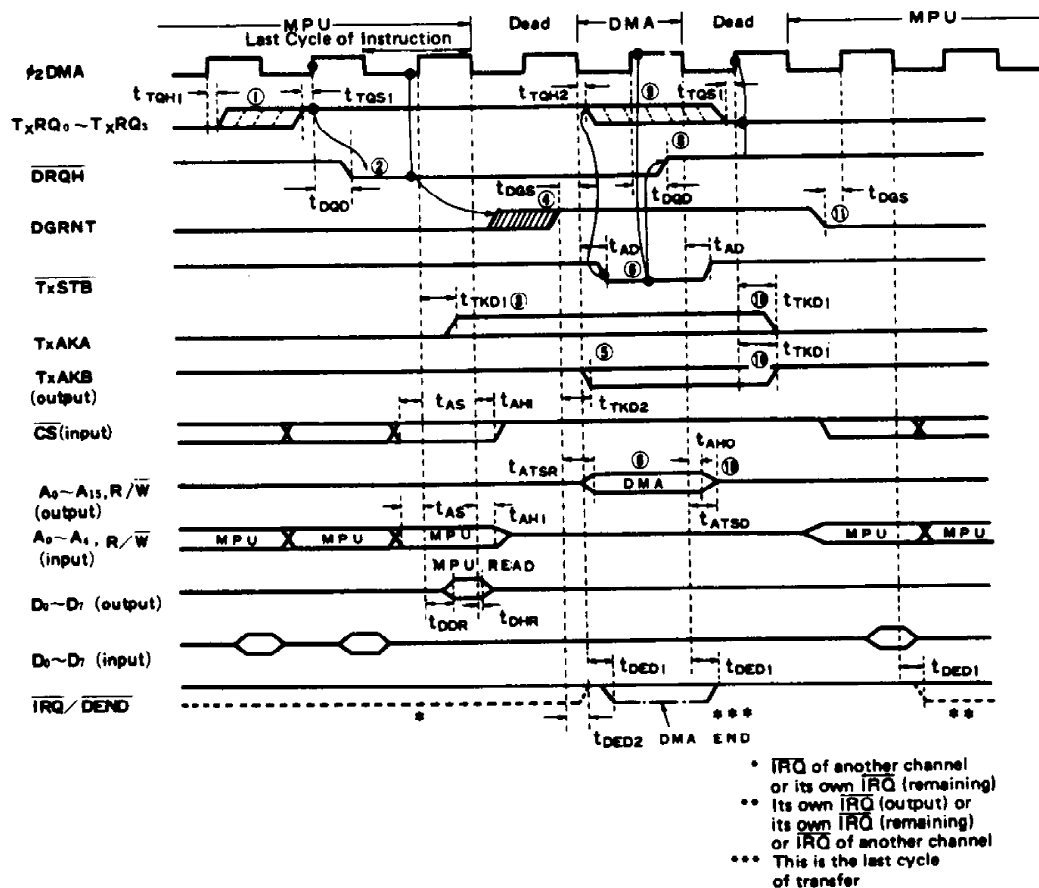
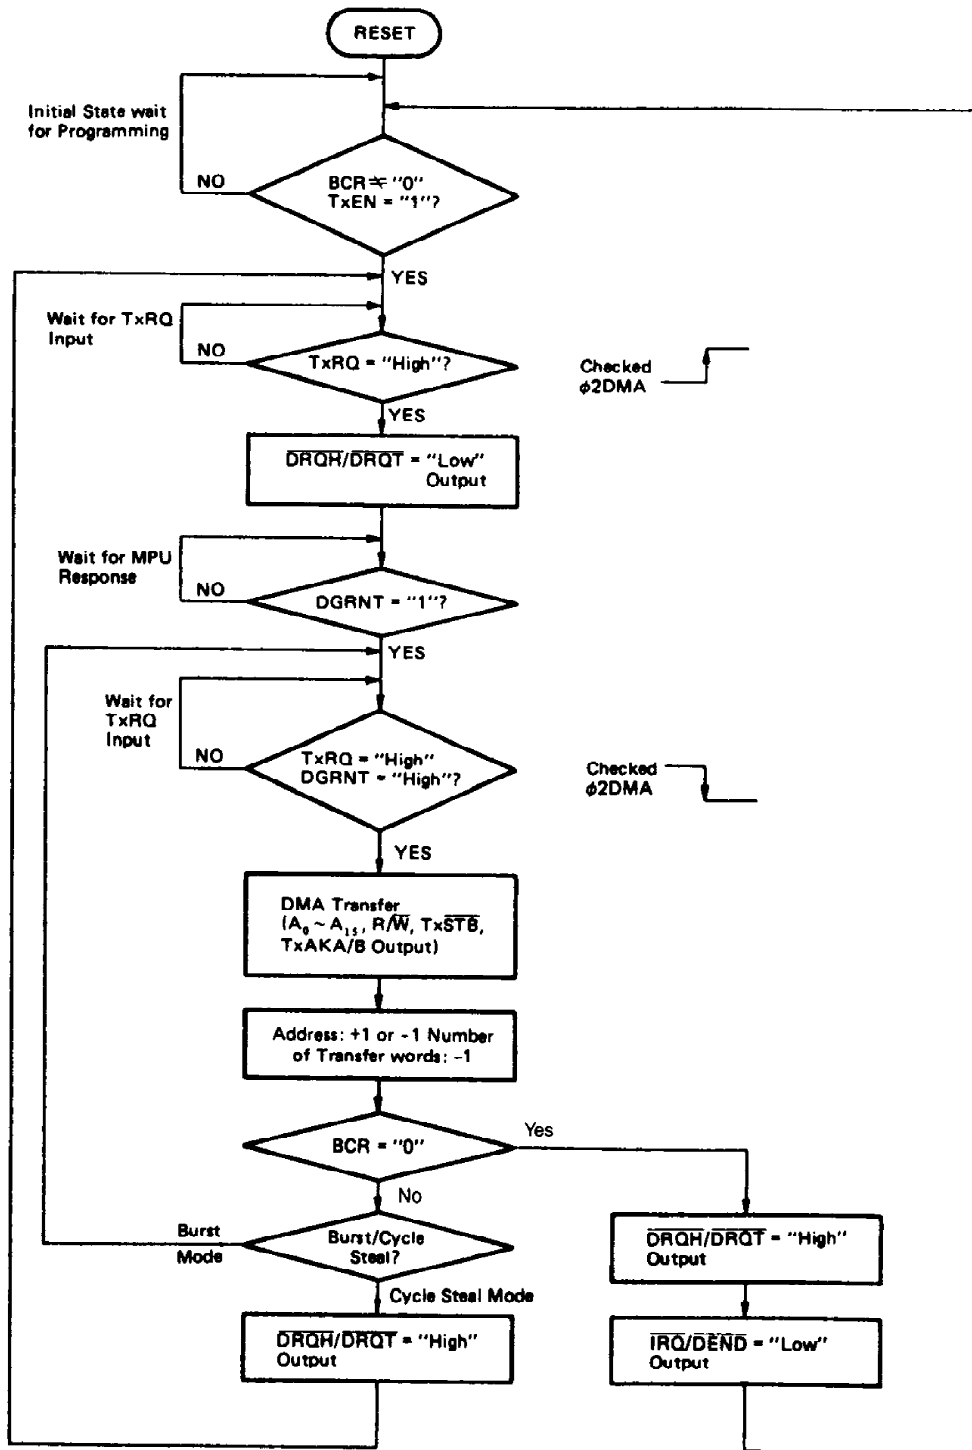
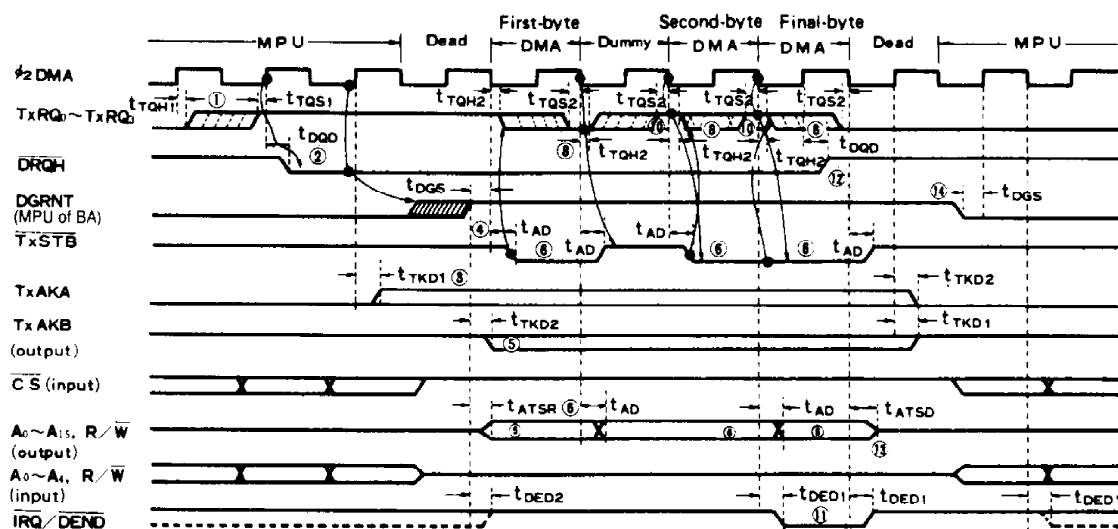
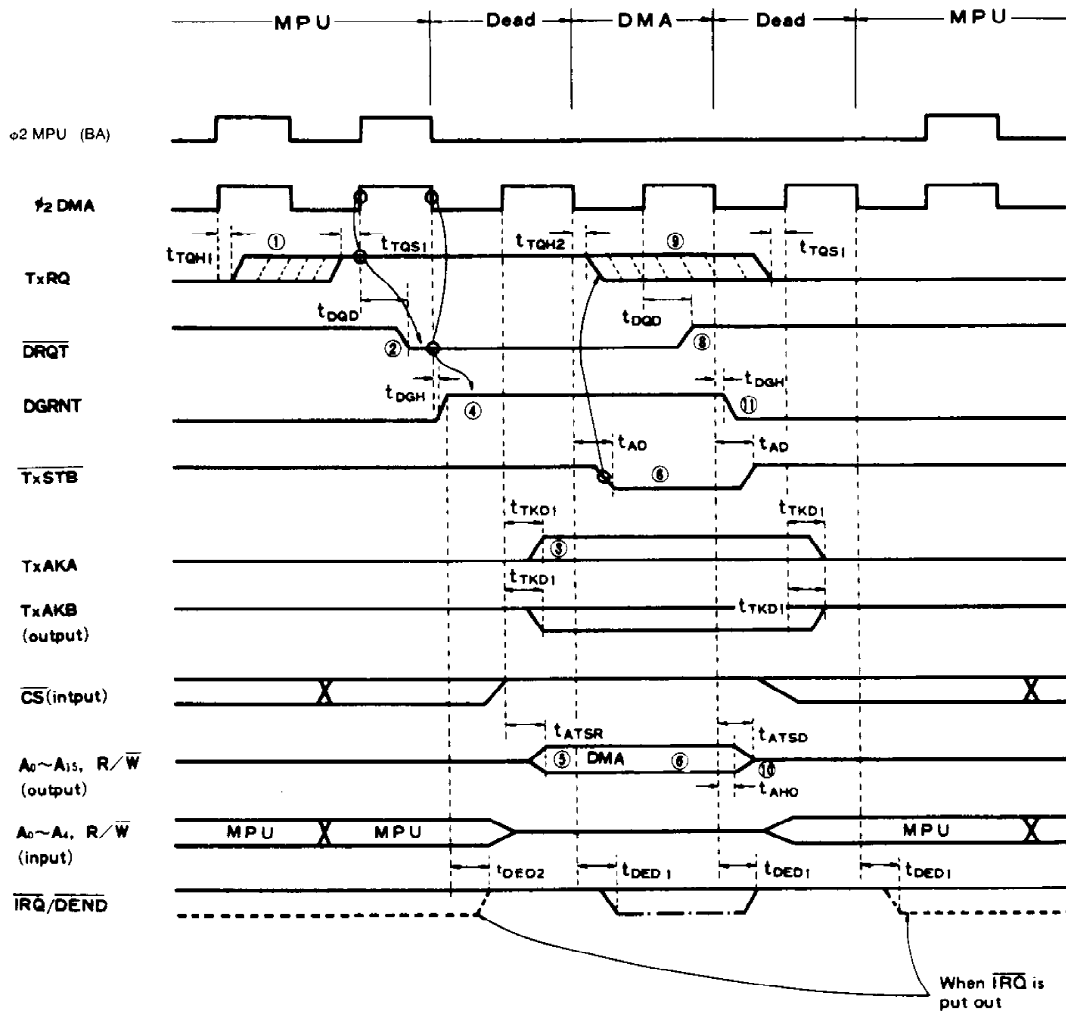

Figure 12 HALT Cycle Steal Mode
Figure 13 Flow Chart of DMAC Operation
Figure 16 HALT Burst Mode
Figure 17 TSC Cycle Steal Mode
Timing chart is shown in Fig. 12 and flow chart is shown in Fig. 13. Procedure of transfer operation is the following. (No. ① ~ ⑪ in Fig. 12 correspond to the following items.)
- ① TxRQ₀~TxRQ₃ input is checked at the rising edge of ϕ_2 DMA. When it is at "High" level, it gets into the following operation.
- ② $\overline{\text{DRQH}}$ ="Low" is output and MPU is requested to stop its operation.
- ③ TxAKA is driven (Level output).
- ④ MPU stops its operation and DMAC waits until DGRNT goes to "High" level.
- ⑤ When DGRNT goes to "High" level, DMAC drives TxAKB, A₀~A₁₅ and R/W lines.
- ⑥ TxSTB is given to perform DMA transfer.
- ⑦ Address is incremented or decremented by one and number of transfer words is decremented by one.
- ⑧ When $\overline{\text{DRQH}}$ rises to "High" level, MPU gets into Instruction Cycle again.
- ⑨ TxRQ falls to "Low" level.
- ⑩ A₀~A₁₅ and R/W get into high impedance state again.
[Note] TxRQ₀~TxRQ₃ input in HALT cycle steal is, in principle as shown in Fig. 12, set to "High" every 1-byte transfer on account of I/O request. When TxSTB of the DMAC is driven, it is reset to "Low". Take care not to be against this principle, or the following states may happen.
Its timing chart and flow chart are shown in Fig. 16 and Fig. 13 respectively. Procedure of transfer is the following (No. ① ~ ⑭ in Fig. 16 correspond to the following items).
- ① TxRQ input is checked at the rising edge of ϕ_2 DMA. When it is at "High" level, it goes into the following operation.
- ② $\overline{\text{DRQH}}$ ="Low" level is given and MPU is requested to stop its operation.
- ③ TxAKA is driven.
- ④ MPU stops and DMAC waits for DGRNT rising "High" level.
- ⑤ When DGRNT rises "High" level, DMAC drives TxAKB, $A_0 \sim A_{15}$, and R/W lines.
- ⑥ TxSTB is sent out to perform DMA transfer.
- ⑧ TxRQ falls to "Low" level.
- ⑨ When number of transfer words is 0, from ⑪ to ⑭ operations are performed.
- ⑩ When BCR is not "0", TxRQ is checked at the falling edge of ϕ_2 DMA. When TxRQ is at "High" level, DMA transfer is performed through ⑥ ~ ⑧ again. When TxRQ is not at "High" level, DMAC waits for becoming "High" level.
In burst mode, TxRQ should be also, in principle, set to "High" when I/O request is asserted, and reset to "Low" when $\overline{\text{TxSTB}}$ goes to "Low". If TxRQ is asserted as level input without being reset, DMA transfer is performed at all cycles of ϕ_2 DMA since TxRQ is always at "High" level at the falling edge of ϕ_2 DMA. Its example is shown in the second-byte and the third-byte transfer in Fig. 16.
Its timing chart and flow chart are shown in Fig. 17 and Fig. 13 respectively.